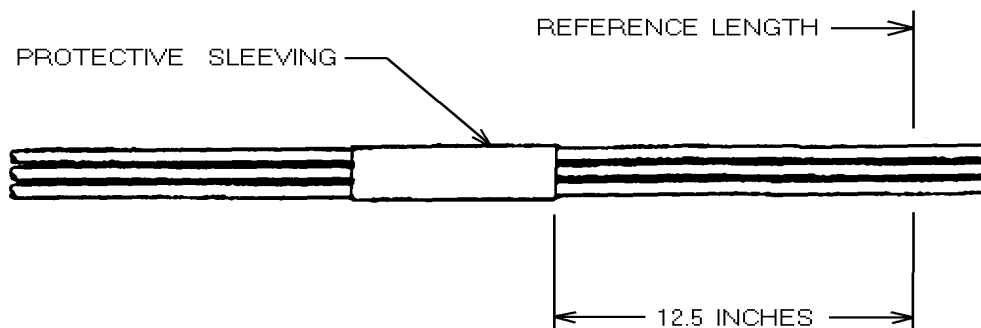

Figure 5-2. Heat-Shrinkable Sleeving Positioned on Harness.
2. Slide a 2-inch length of RNF-100 heat-shrinkable protective sleeving over the bundle and shrink it into position as shown in Figure 5-2.